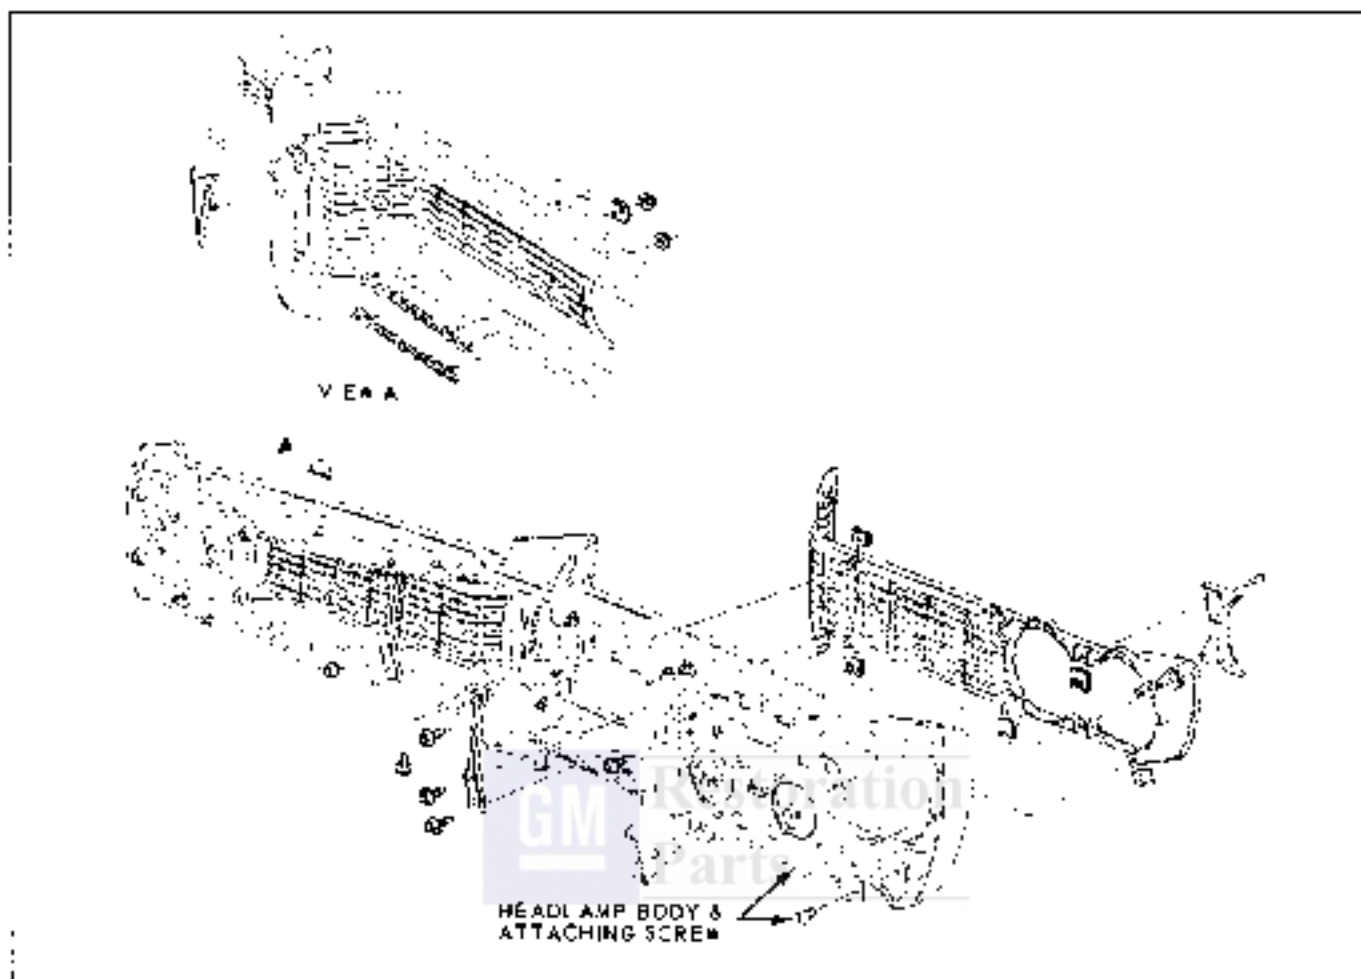

Fig. 14-3 Pontiac Grille
7. Remove grille shells (Fig. 14-3 and 4).